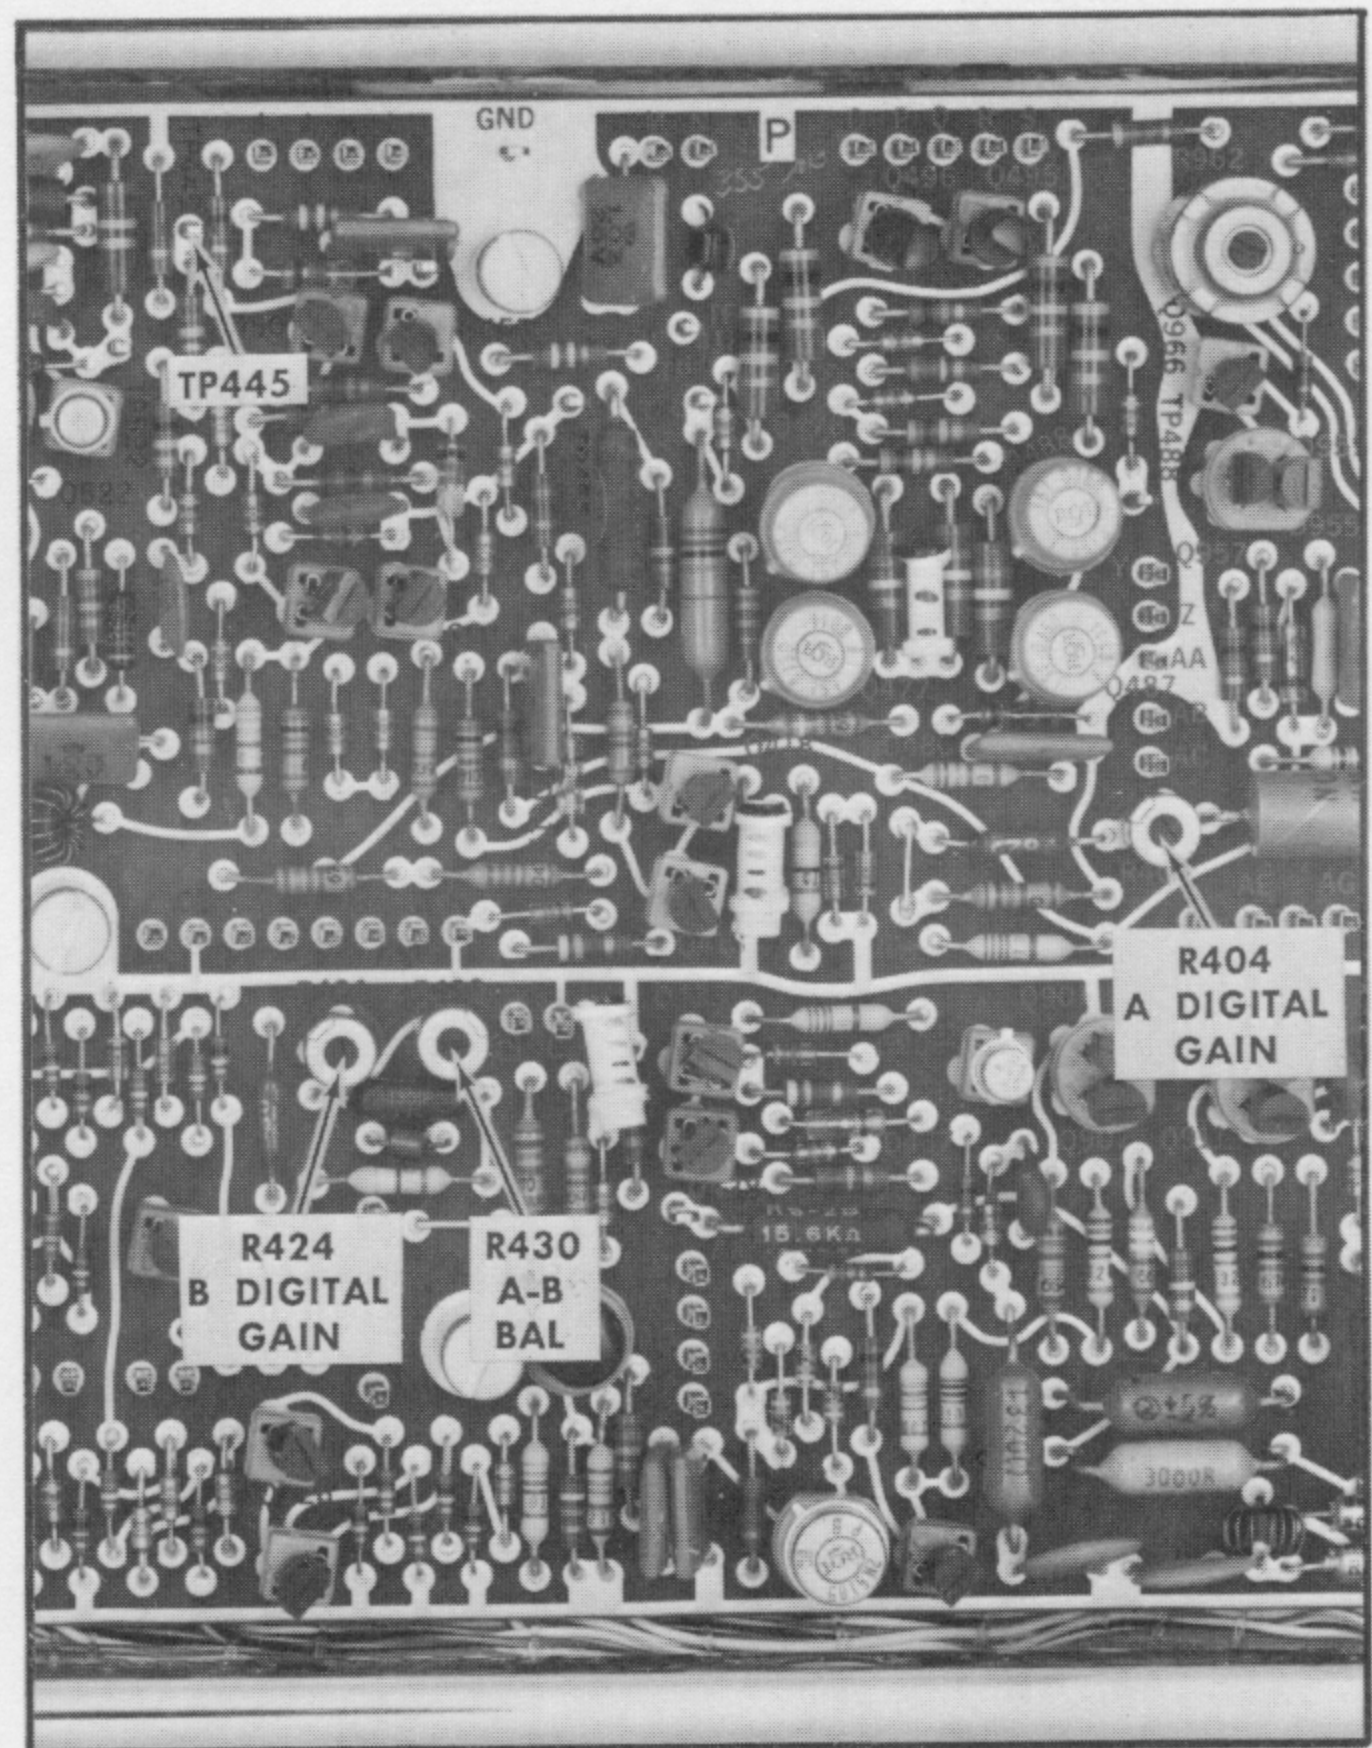

Fig. 7-12. Location of controls on Output circuit board, right side of instrument.
- Connect the  $1\times$  probe from the Type W Input A connector to TP445; see Fig. 7-12. Set the test oscilloscope sweep rate to  $20\ \mu\text{s}/\text{div}$ , and deflection factor to 1 V/div.
c. Refer to Fig. 7-12 and locate the A DIGITAL GAIN control, R404. Adjust R404 until the digital unit reads 1.00 volt.
g. If the display amplitude is not 5 divisions, refer to Fig. 7-12 for location of the A-B BAL control, R430, and adjust R430 for a 5 division display.